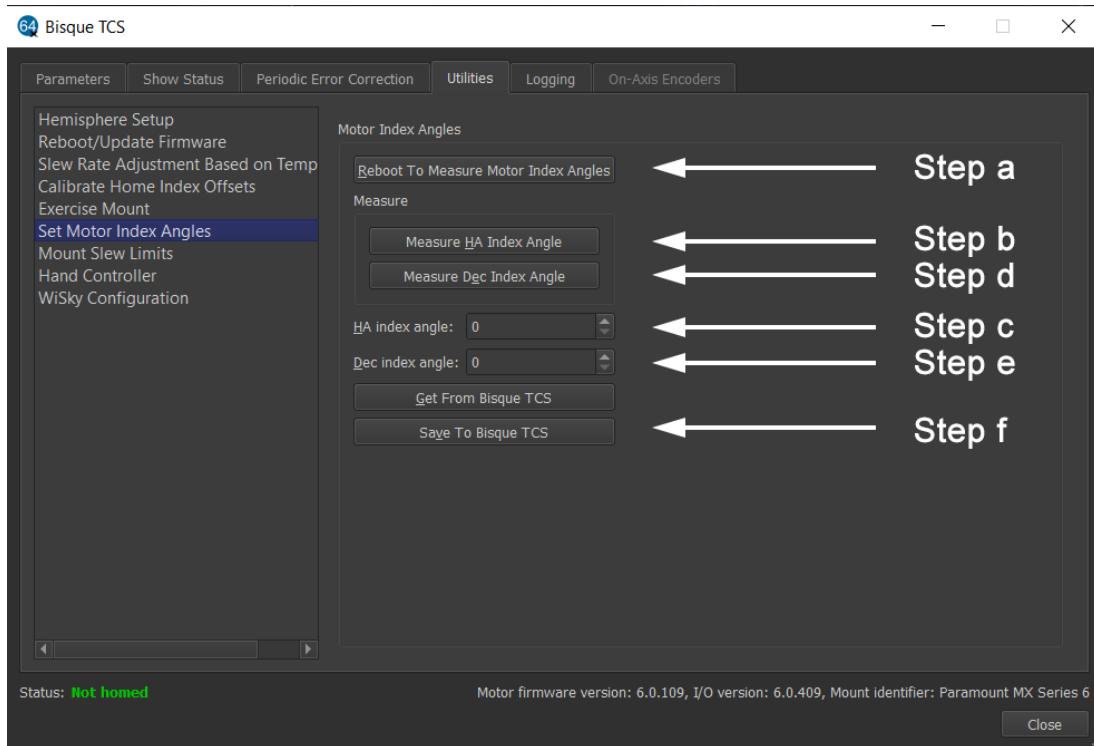

Figure 53: Follow Steps a-f to measure and save the motor index angles for both axes.
8. Click the **Utilities** tab and highlight the **Set Motor Index Angles** option on the left side of the window. The steps below are highlighted in Figure 53.
<p>3. After issuing the Find Home command, the telescope status text shows Not Homed or homing the mount by double-tapping the button on the joystick fails.</p>	<p>Solution 1: Calibrate the MKS 6000 Joystick Port</p> <ol style="list-style-type: none"> <li>1. Connect to the mount.</li> <li>2. Choose the Bisque TCS command from the Tools pop-up menu on the Telescope window.</li> <li>3. Highlight Hand Controller in the list on the left side of the Utilities tab on the Bisque TCS window.</li> <li>4. Click the Calibrate Joystick button.</li> <li>5. Important! Choose the Save All Parameters to the Mount command from the Commands pop-up menu on the Parameters tab of the Bisque TCS window.</li> </ol> <p>Explanation: The MKS 6000 control system has an internal sensor that detects input from the joystick on the hand paddle.</p> <p>Joystick calibration should be performed at the factory, and normally need not be calibrated again. However, if the joystick sensor was not calibrated at the factory, issuing the Find Home command may fail unexpectedly and the telescope status text on the Telescope window will show Not Homed.</p> <p>Note that the hand paddle does not need to be plugged in to the Electronics Box for successful joystick calibration.</p> <p>Solution 2: Ensure both ends of the homing sensor cable are plugged in.</p> <p>One end of the homing sensor cable plugs into the MKS 6000 PCB (Figure 53), and this cable splits into to two separate cables for right ascension and declination homing sensor. See the Paramount GEM Homing Sensor Cable Troubleshooting and Installation Use document (log in required) for reference on where to locate these sensors: <a href="http://tinyurl.com/3nnknenh">http://tinyurl.com/3nnknenh</a></p> <p>Double-check that all three ends of the homing sensor cable are in place and that there is no grease in between either of the posts that separate the optical sensors.</p>